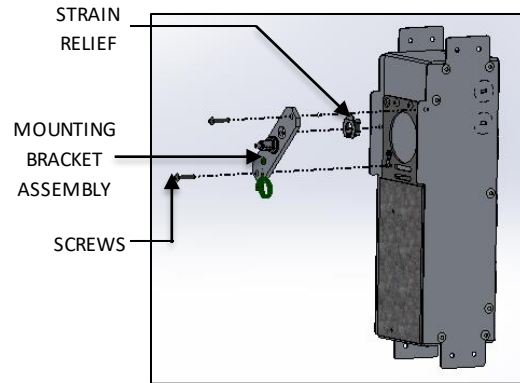

FIG. 7 – MOUNTING BRACKET DISASSEMBLY
2. Remove the Screws securing MOUNTING BRACKET ASSEMBLY, and slide MOUNTING BRACKET ASSEMBLY out of J-BOX along with STRAIN RELIEF provided in it as shown in FIG. 7.